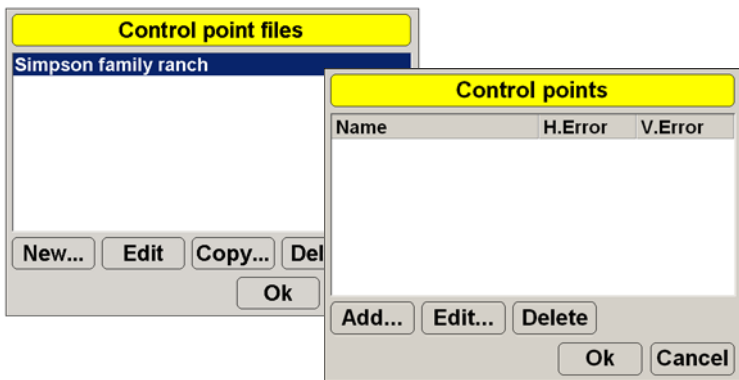

Figure 5-28. Control Point Files Dialog Box
2. Press **Topcon Logo ▶ File ▶ Control Points**. The *Control point files* dialog box displays (Figure 5-28).
3. On the *Control point files* dialog box, select the correct control points file, and press **Edit**. The *Control points* dialog box displays, listing all control points for the file and jobsite (Figure 5-28).